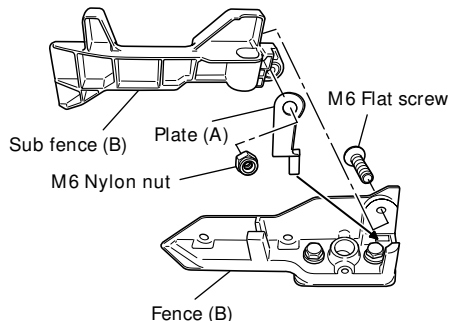

Fig. 8
5. Install the sub fence (B) (Fig. 8)
In the case of direct angle cutting and angle cutting, use the sub fence. The sub fence (B) can be installed on the right side of the guide fence (B). Place the attached plate (A) in the position as shown in Fig. 8, insert the tip in the groove of fence (B) and simultaneously, insert flathead screw M6 into fence (B), sub fence (B), and plate (A), then tighten nylon nut M6 with the included 10mm box wrench until the sub fence (B) can smoothly rotate. Then, you can realize stable cutting of the material with a wide back face.